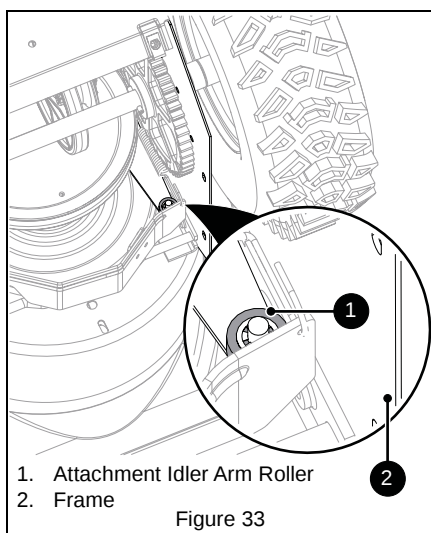

Figure 33
2. Engage attachment clutch and check the clearance between the frame and plastic roller on the lower end of the attachment idler arm. Roller should be 12.7 mm – 22.2 mm (1/2" – 7/8") from the frame. See Figure 33.